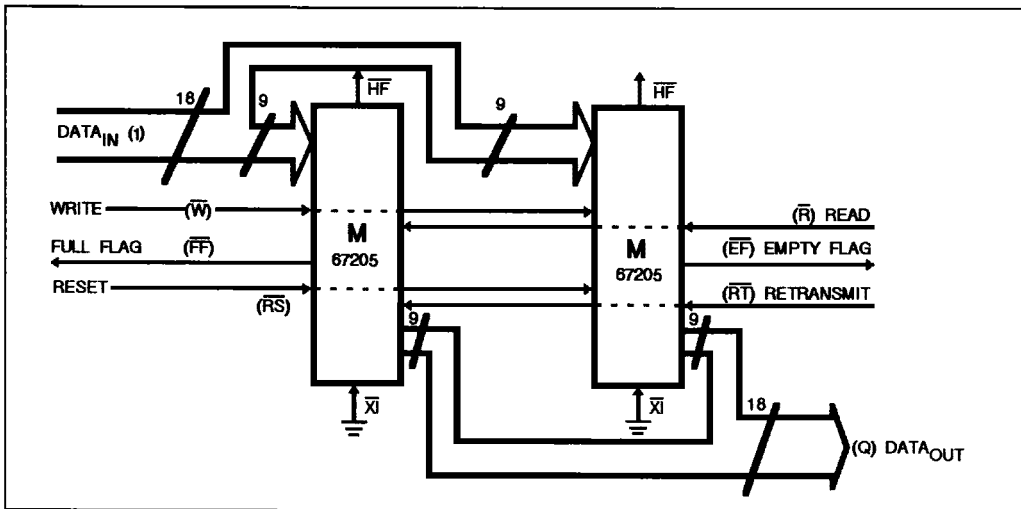

Figure 3 : Block Diagram of 8192 x 18 FIFO Memory Used In Width Expansion Mode.
device. Figure 3 demonstrates an 18-bit word width by using two L 67205. Any word width can be attained by adding additional L 67205.
7. For Flag detection see section on Width Expansion and Figure 3.